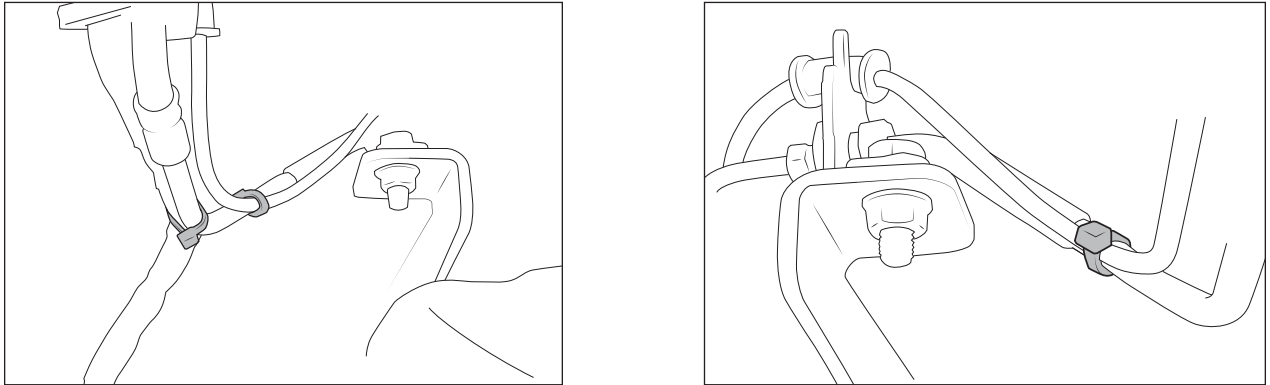

Figure 31
17. Reattach the central axle disconnect and wheel speed sensor wire with zip ties as shown (fig. 31).